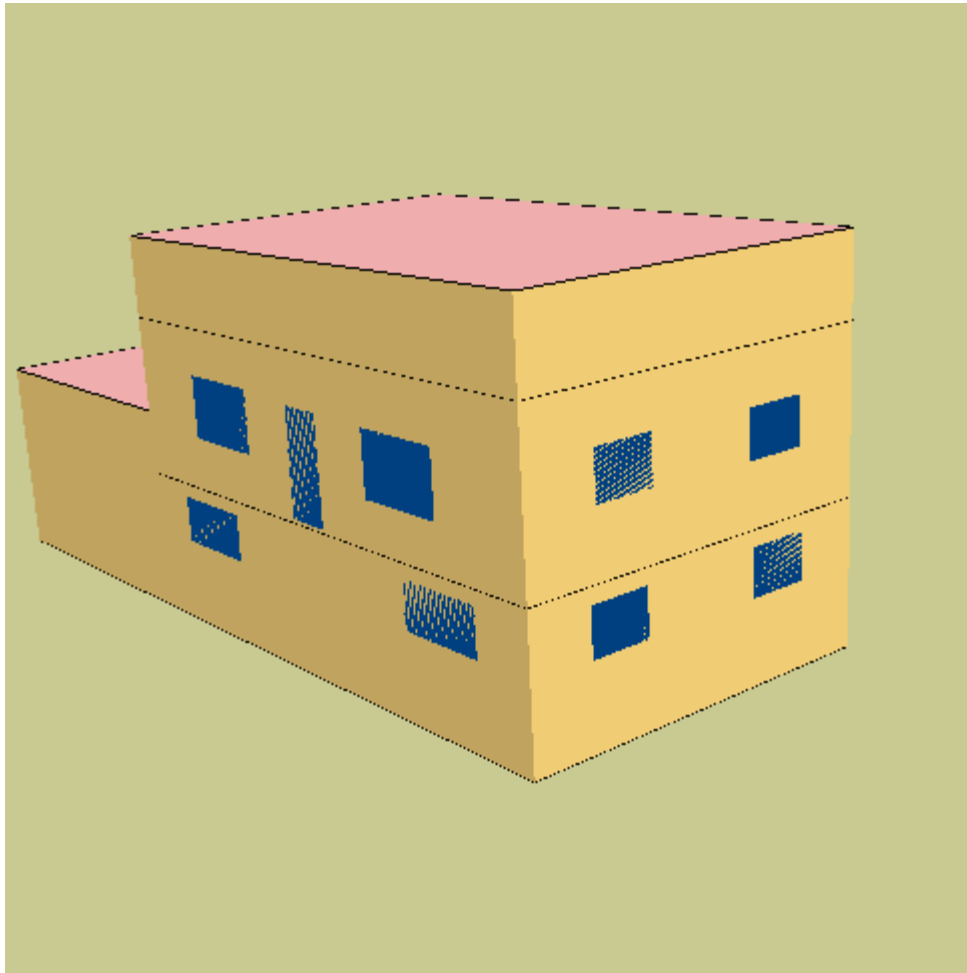

Figure 1: 3-D rendering of the house to provide the window layout in two directions
- WWR of 5.1% (refer to the 3-D renderings provided in Figures 1 and 2 for the window repartition)